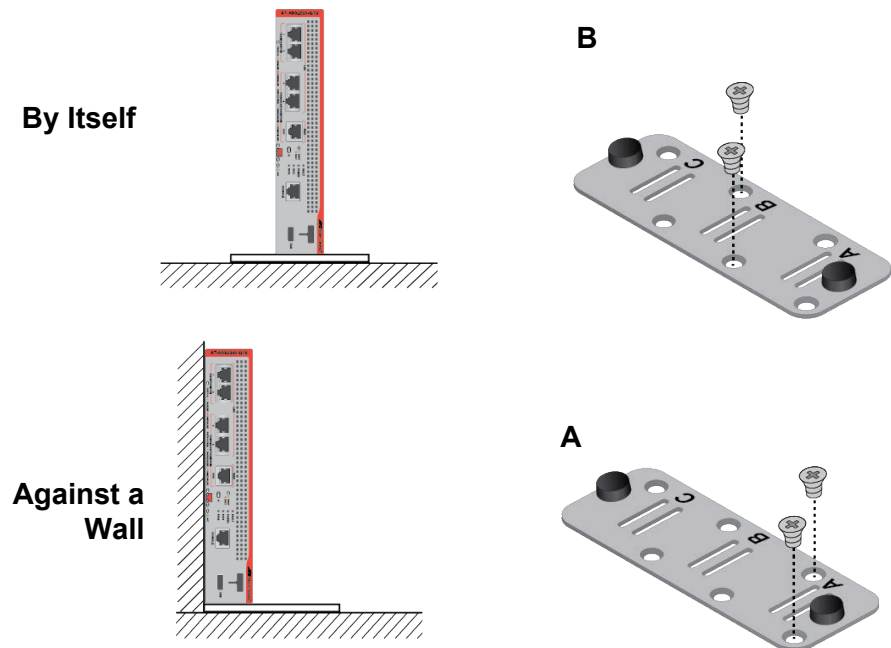
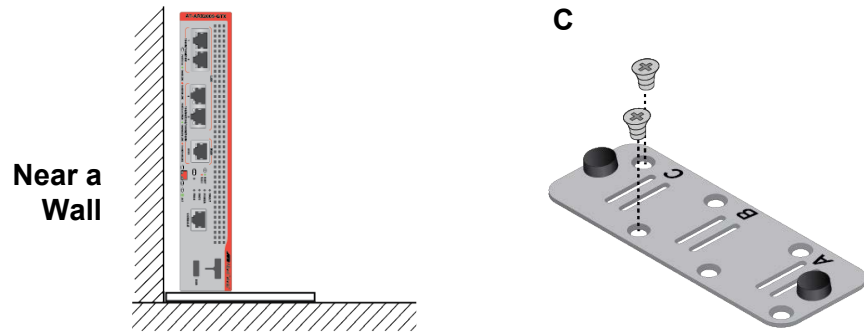
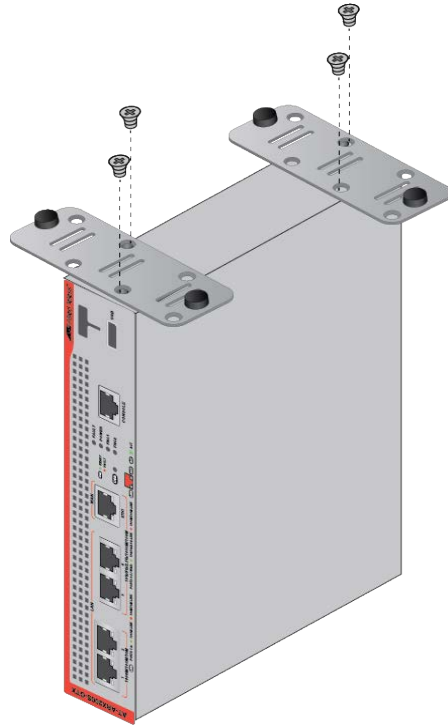

Figure 24. STND-J03 Bracket Holes
Figure 25. STND-J03 Bracket Holes (Continued)
Figure 27. Attaching the STND-J03 Brackets to the Side of the Router
The brackets have holes for the different installation orientations. The holes are marked with A, B, and C. Refer to Figure 24 and Figure 25 on page 60.
7. Attach the brackets to one side of the router using the M4 x M6 screws included in the kit. Refer to Figure 27. Be sure to use the bracket holes that correspond to your selected orientation for the router on the table. Refer to Figure 24 on page 59 and Figure 25 on page 60.